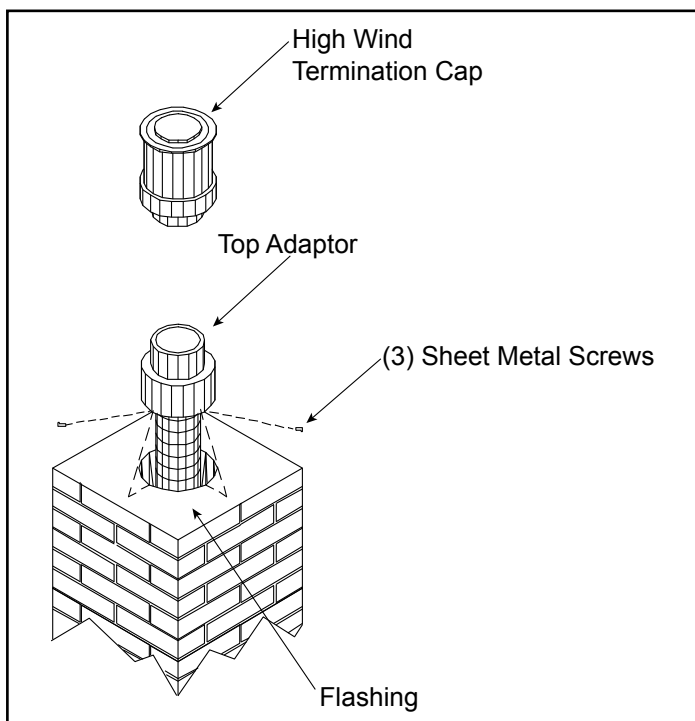

Figure 4.26
8. Secure the top adaptor to the flashing. Use three sheet metal screws through the side of the top adaptor into the flange on the flashing. See Figure 4.26. Twist lock the high wind termination cap on to the top adaptor.